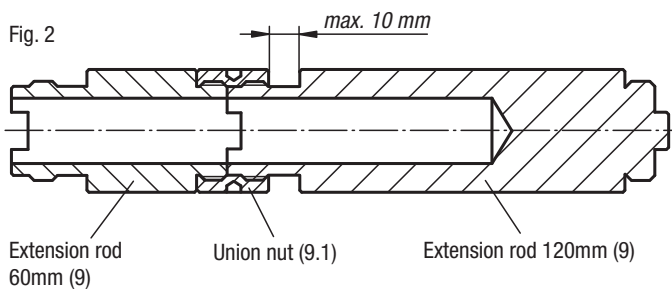

Fig. 2
- When assembled, the spacing between the union nut (9.1) and the extension rod (9) may not exceed 10 mm (Fig. 2).